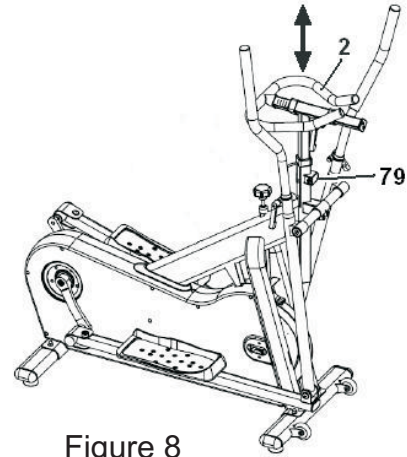

Figure 8
- Loosen knob (79) located on the vertical tube of the main body (fig. 8) by turning the knob counterclockwise
- Slide the Handlebar stem up or down to the desired height then tighten the knob (79) by turning it clockwise